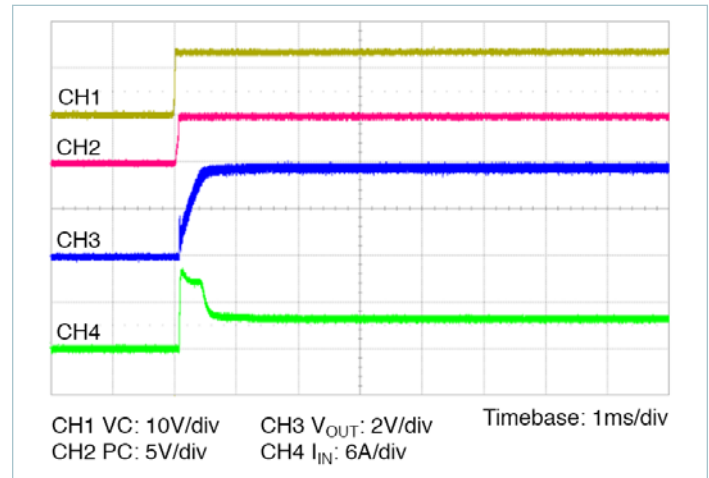

Figure 14 — Start up from application of V_C ; V_{IN} pre-applied $C_{OUT} = 9100\mu\text{F}$
- **Stand-alone operation (VC applied after V_{IN}):** In this case the VTM output will begin to rise upon the application of the VC voltage (See Figure 14). The Adaptive Soft-Start Circuit may vary the output rate of rise in order to limit the inrush current to its maximum level. When starting into high capacitance or a short, the output current will be limited for a maximum of 1200μs. After this period, the Adaptive Soft-Start Circuit will time out and the VTM module may shut down. No restart will be attempted until VC is re-applied or PC is toggled. The maximum output capacitance is limited to 9100μF in this mode of operation to ensure a successful start.